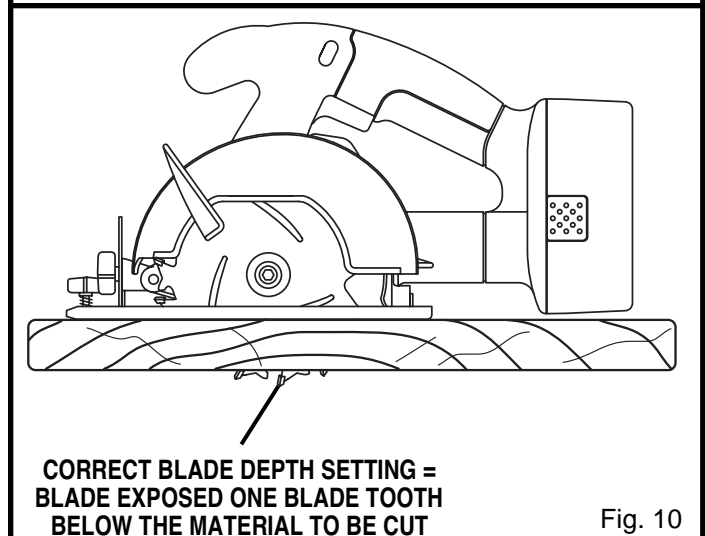

Fig. 10
- Always keep the correct blade depth setting – the correct blade depth setting for all cuts should not exceed 1/4 in. below the material to be cut. See Figure 10. One blade tooth below the material to be cut works best for most efficient cutting action.